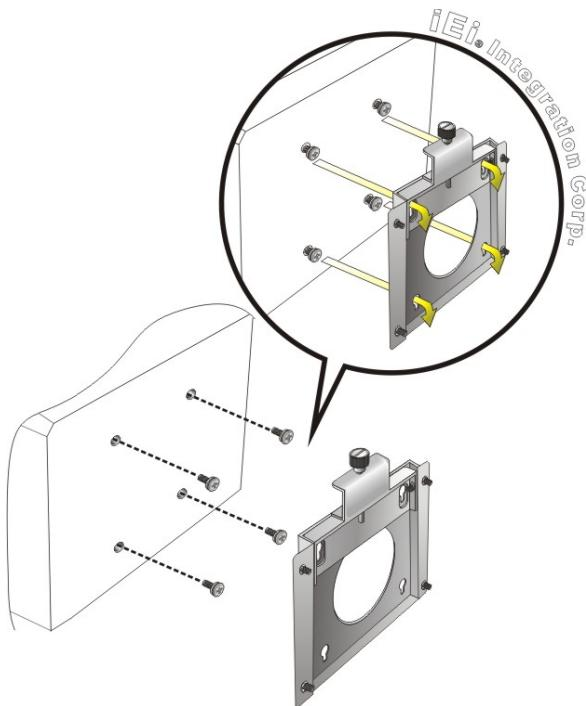

Figure 3-17: Chassis Support Screws
Step 6: Insert the four monitor mounting screws provided in the wall mount kit into the four screw holes on the real panel of the flat bezel panel PC and tighten until the screw shank is secured against the rear panel (**Figure 3-17**).
Step 8: Carefully insert the screws through the holes and gently pull the monitor downwards until the monitor rests securely in the slotted holes (**Figure 3-17**). Ensure that all four of the mounting screws fit snugly into their respective slotted holes.